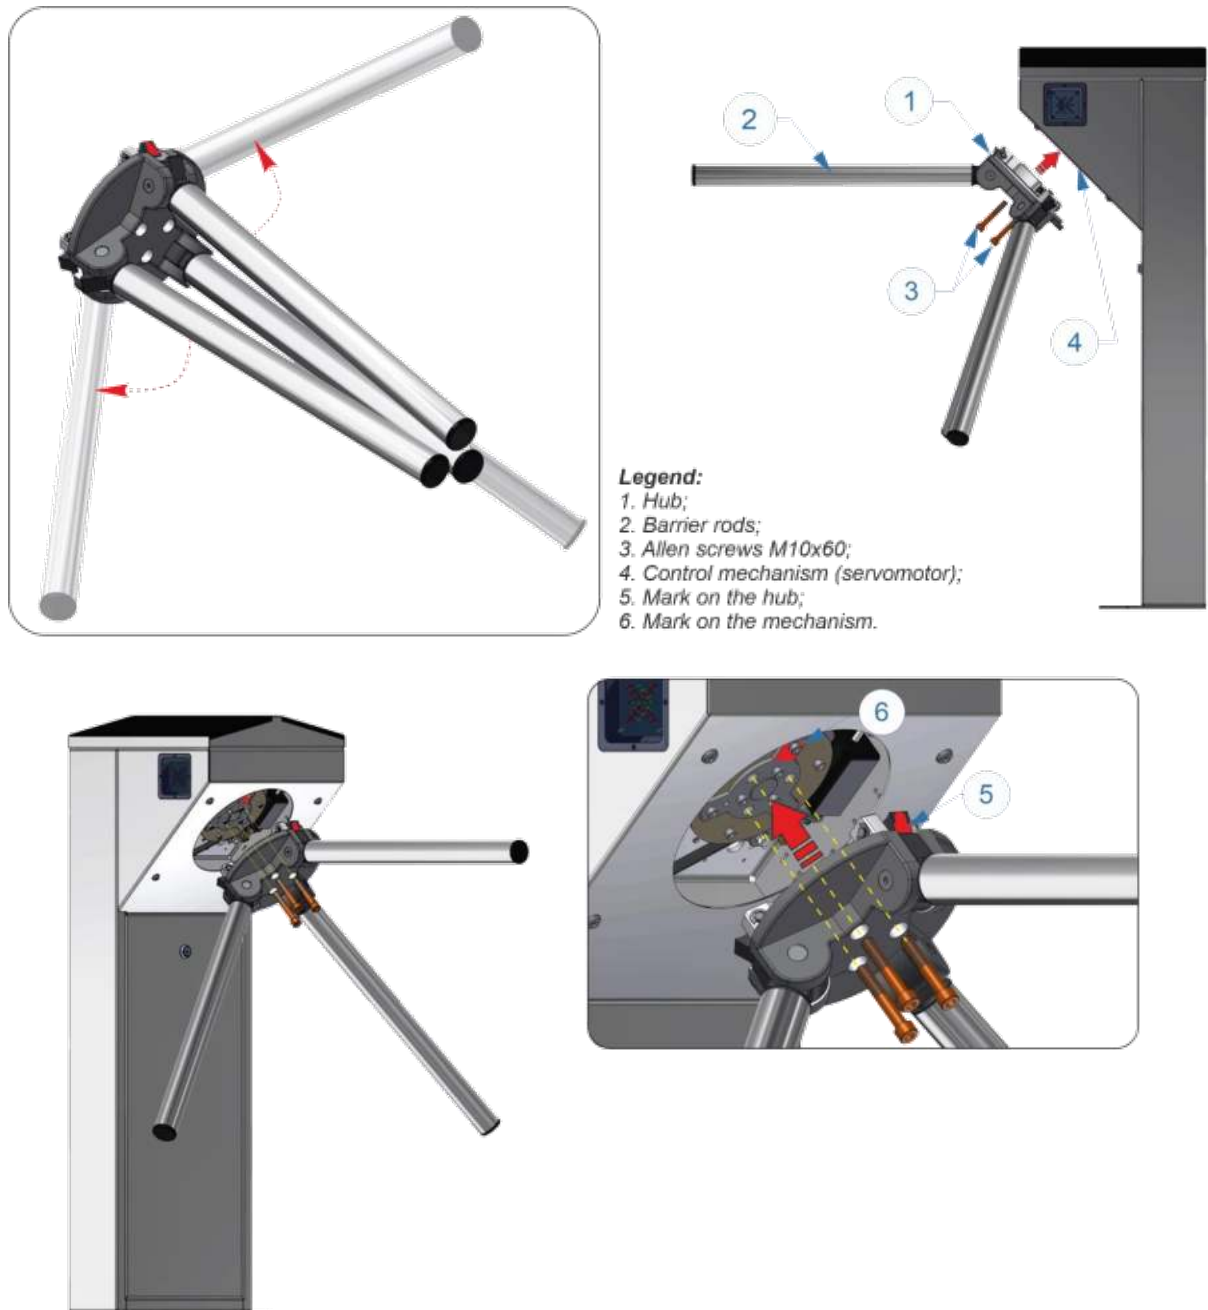

Fig. 15 – Installation of the hub with barrier rods into the tripod turnstile body
- a) The hub (1) barrier rods (2) to be set out manually (See Fig. 15).
- b) The hub (1) to be mounted on center of the turnstile mechanism (4) connecting the mark on the hub (5) to the mark on the mechanism (6) (the position of the marks can be in any of the 3 positions);